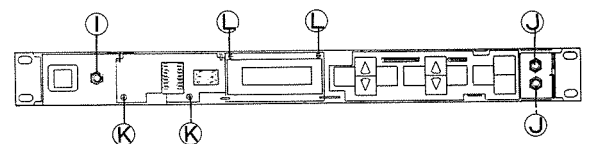

Fig. 4
- Remove the 2 hexagonal nuts **I** ($\phi 9$) and disconnect 1 connector for the FP circuit board 3/3 on the AD circuit board, and remove the FP circuit board 3/3. (Fig. 4)
connect 1 connector on the FP circuit board 1/3, and remove the FP circuit board 1/3. (Fig. 4)
- Remove the 2 screws **K** (3 × 8 bind head screw) and disconnect 2 connectors on the LED ass'y, and remove the LED ass'y. (Fig. 4)
- Remove the 2 screws **L** (2.6 × 5 pan head screw) and disconnect 2 connectors for the LCD ass'y on the AD circuit board, and remove the LCD ass'y. (Fig. 4)